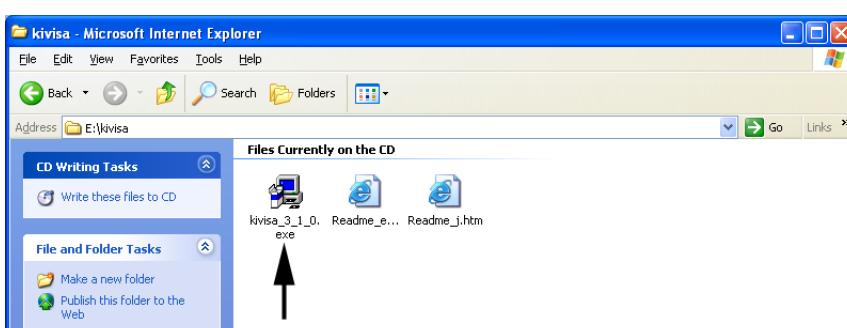

Fig.2-8 KI-VISA installation (Example of Kivisa\_3\_1\_0.exe)
- 17** Click the **Back** button in the browser window shown in Fig.2-8.